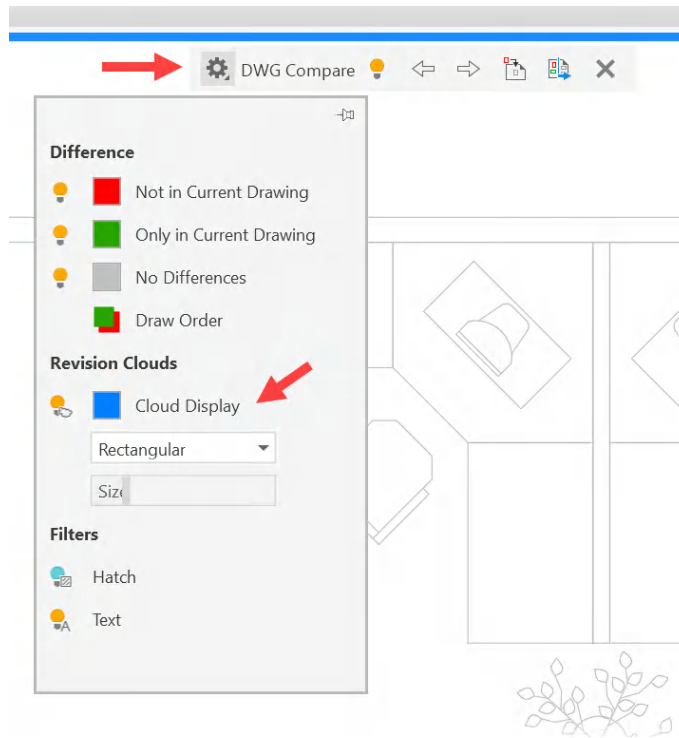

Figure 14.6: The DWG Compare Setting menu with Cloud Display arrowed
5. Click on the **Settings** icon (*gear wheel*) on the **DWG Compare** toolbar, as shown in *Figure 14.6*. You will notice that the highlight colors can be set there. Set the **Cloud Display** color to make the revision clouds stand out more. In this case, a dark blue cloud display color is selected as the background is white. The default cloud color is orange, which works well when using the default AutoCAD dark color theme in the AutoCAD Options. Colors are used in **DWG Compare** to make sure that the differences between drawings that are highlighted are organized and obvious.